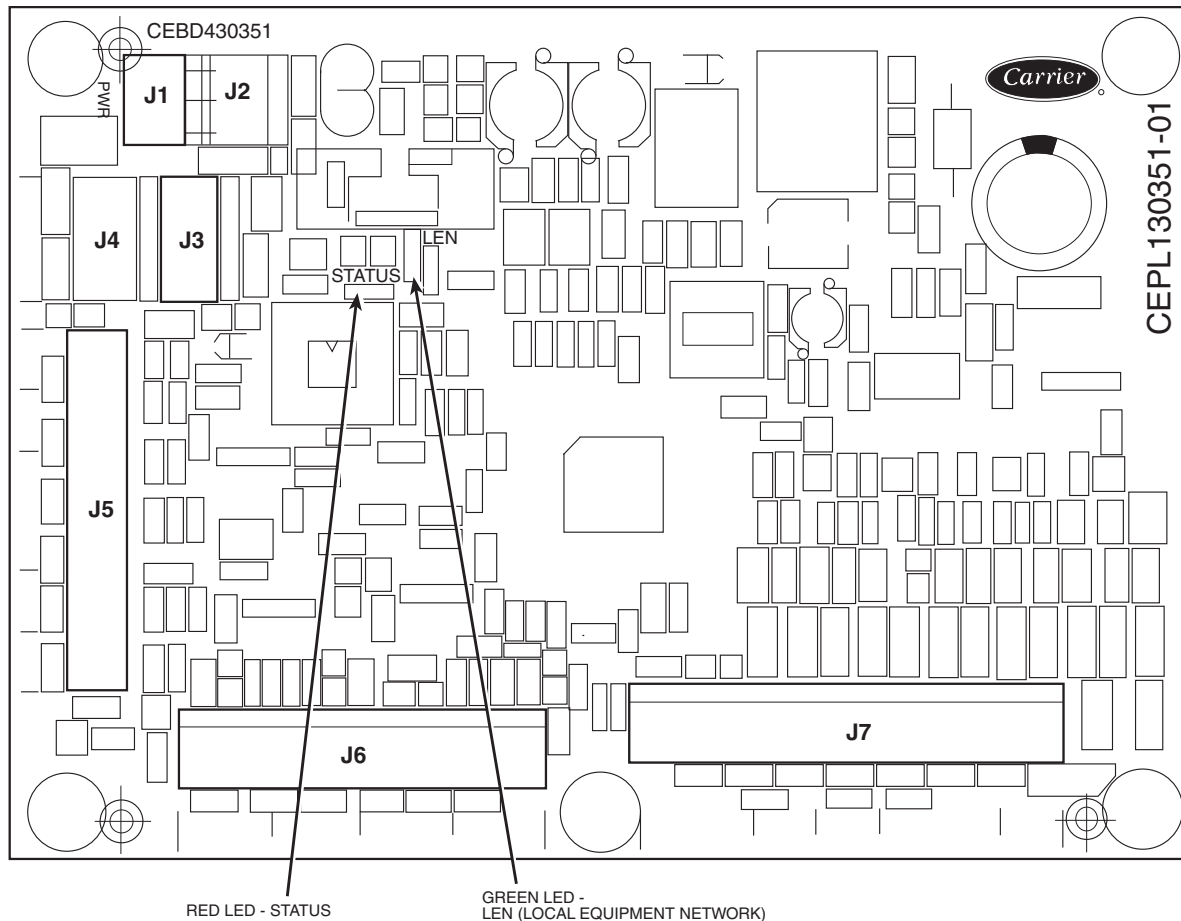
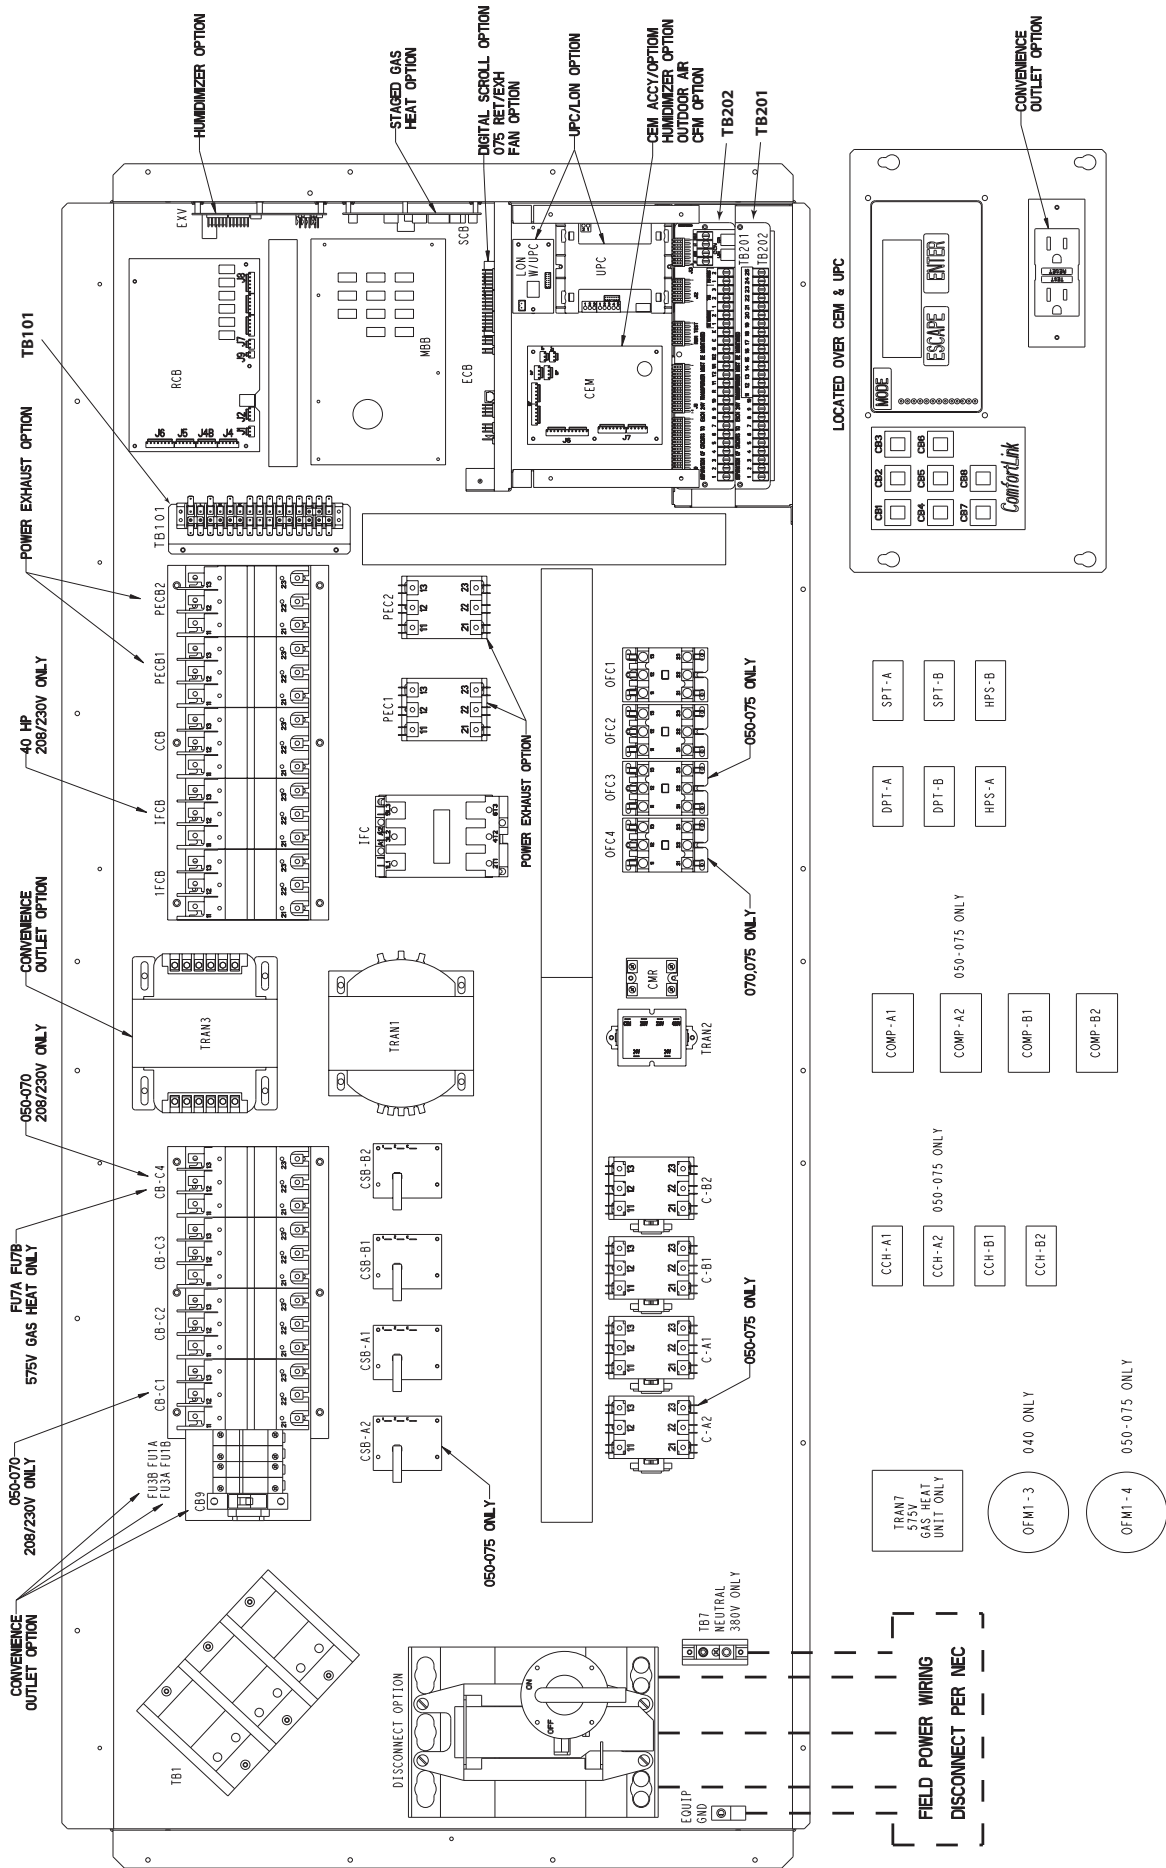
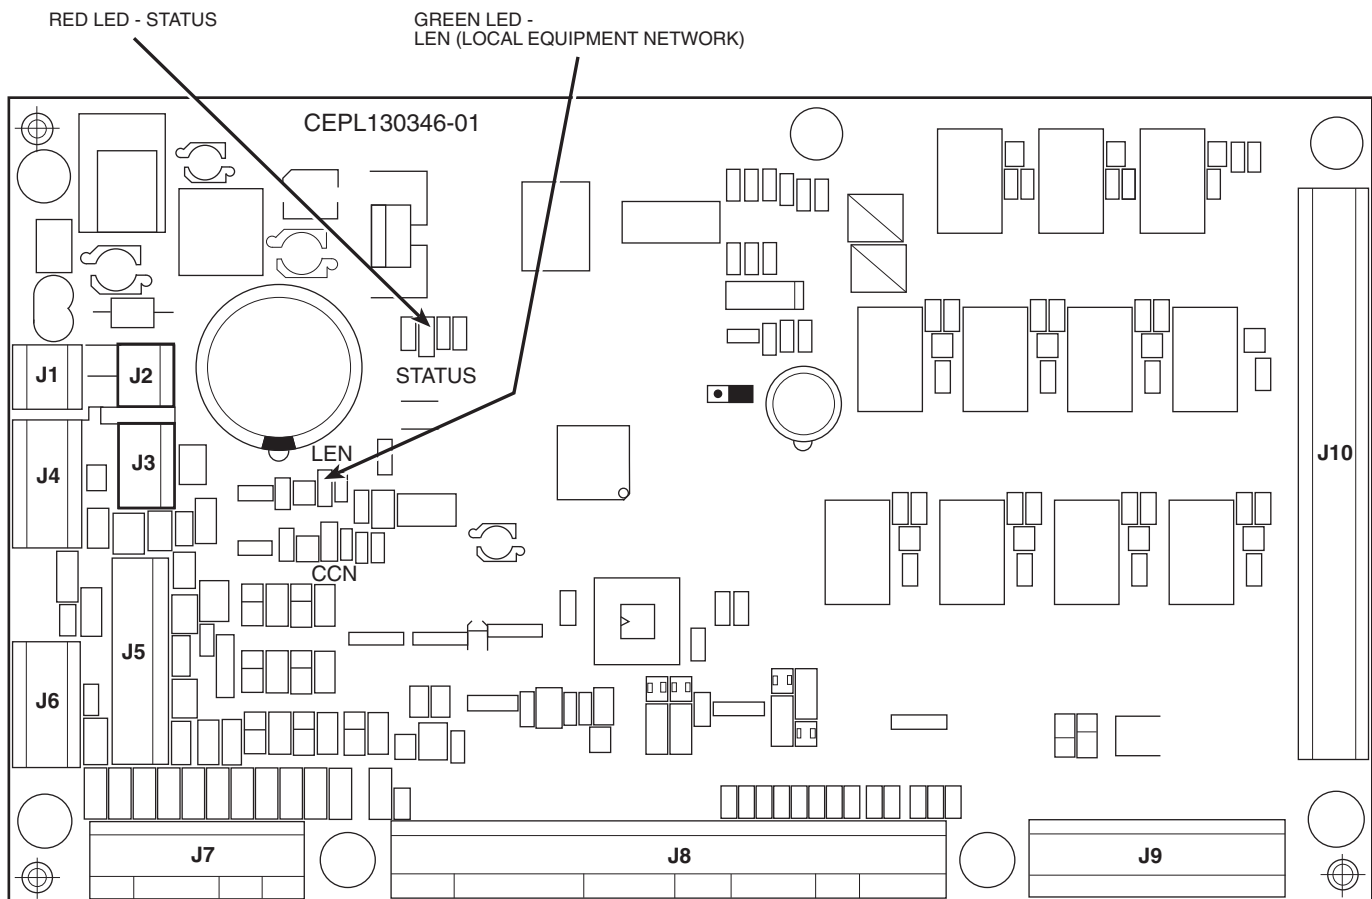
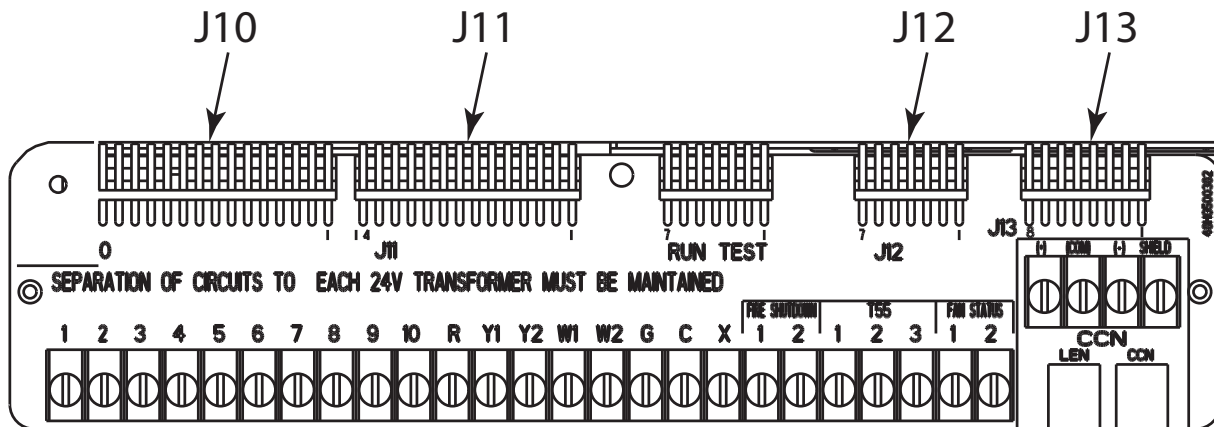

Fig. 1 — CEM Board
Fig. 2 — Main Control Box, 48/50P030-100 (Sizes 040-075 Shown)
Fig. 3 — Main Base Board (MBB)
Fig. 4 — Terminal Board Details (TB-202)
The controls expansion module accessory (CEM) is required for additional features that are offered from a *ComfortLink*™ controller. See Fig. 1. The following features are supported by this accessory:
NOTE: See Fig. 1 for all CEM board wiring connection locations. See Fig. 2 for control box board and plug locations. See Fig. 3 for all MBB (main base board) wiring connection locations.
4. Loosen screws that secure the scrolling marquee display and the circuit breaker panel. Remove panel and slide into slot provided above the panel for storage. See Fig. 2.
5. Attach the CEM board in the main control box in the location shown in Fig. 2 using the 5 no. 6-20 x 1 in. screws provided.
7. Connect the accessory wiring harness plugs TB202-J10, TB202-J11, TB202-J12 to the J10, J11, J12 terminals on the TB202 terminal board supplied with the accessory kit. See Fig. 4.
8. Attach terminal board TB202 to the bracket in the control box in the location shown in Fig. 2 using the 3 no. 8-18 x 5/8-in. screws provided. See Fig. 4. It will be necessary to remove TB201 before installing TB202.
Red LED — Proper operation of the control boards can be visually checked by looking at the red status LEDs as shown on Fig. 1 and 3. When operating correctly, the red status LEDs on all boards should blink in unison at a rate of once every 2 seconds (1 second ON, 1 second OFF). If the red LEDs on all boards are blinking, but not in unison, then either the